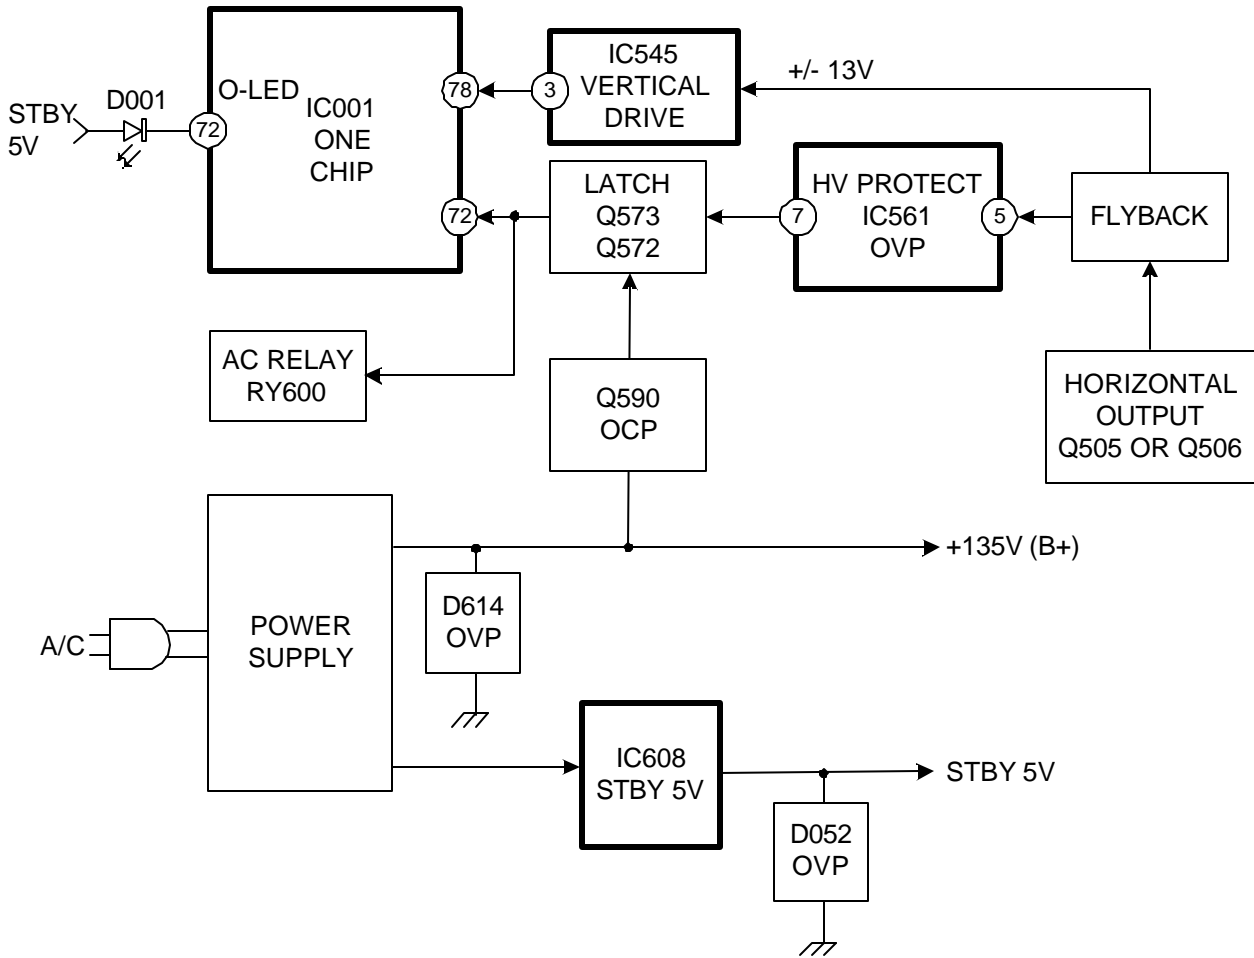
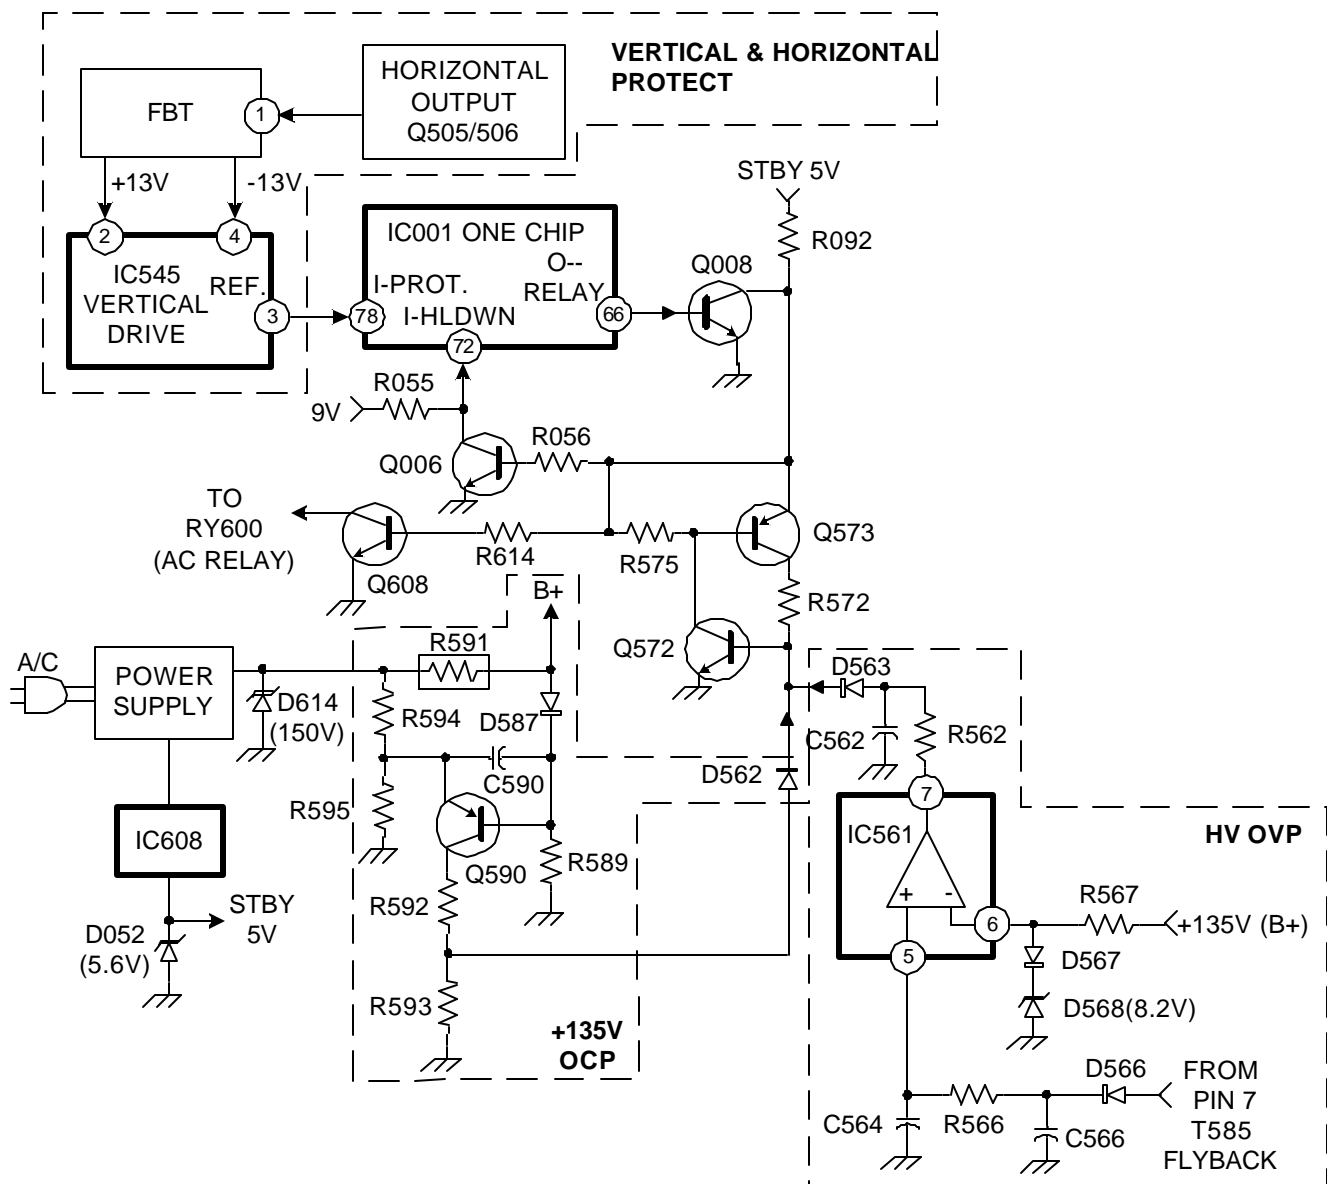

FIGURE 5-1 - PROTECTION BLOCK
FIGURE 5-2 - PROTECTION CIRCUIT
Note: Reference figure 5-1 during the following overview discussion:
The four main functions monitored by the protection circuits are the Vertical deflection, Horizontal deflection, High Voltage (HV) and +135V supply (Ref. Figure 5-1 for block diagram and Figure 5-2 for circuit detail).
Note: Reference Figure 5-2 during the following discussion: